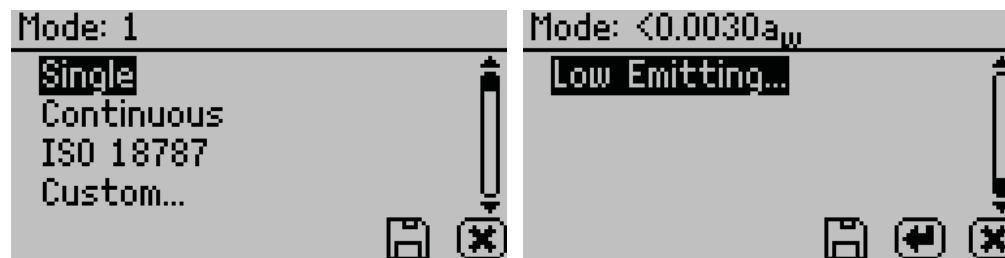

Figure 32 Custom mode options
- **Mode.** Select to choose between Single, Continuous, ISO 18787, Custom, or Low-Emitting mode (Figure 32). The current mode settings appear at the top of the screen with the number of tests appearing first, followed by the stability value ( $\Delta a_w$ ).